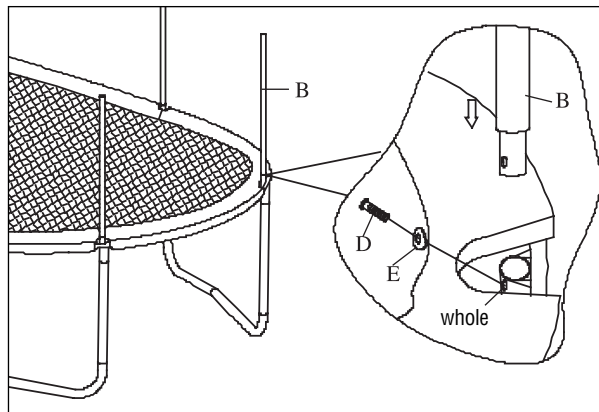

Fig. 1
- Insert the lower net tube (B) into the respective sleeve on the trampoline frame. Fasten it with a screw (D) and washer (E) as in fig. 1. Repeat this step for all 8 net tubes.